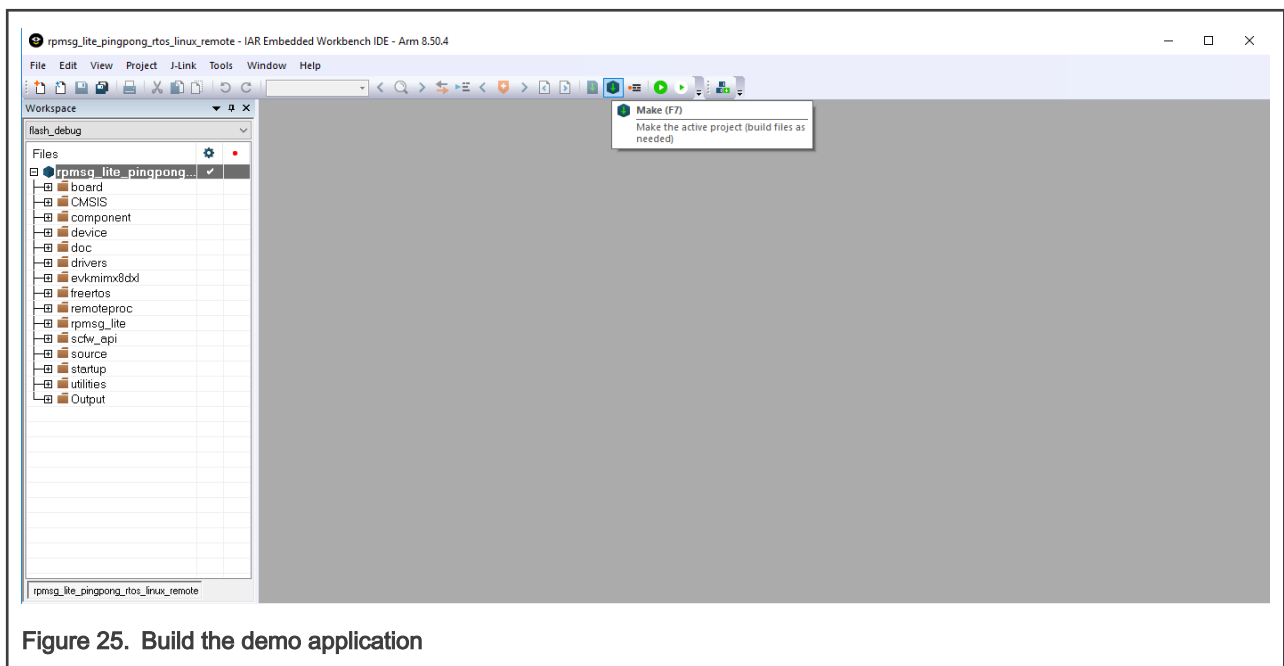

Figure 25. Build the demo application
3. To build the demo application, click **Make**, highlighted in red in Figure 25.